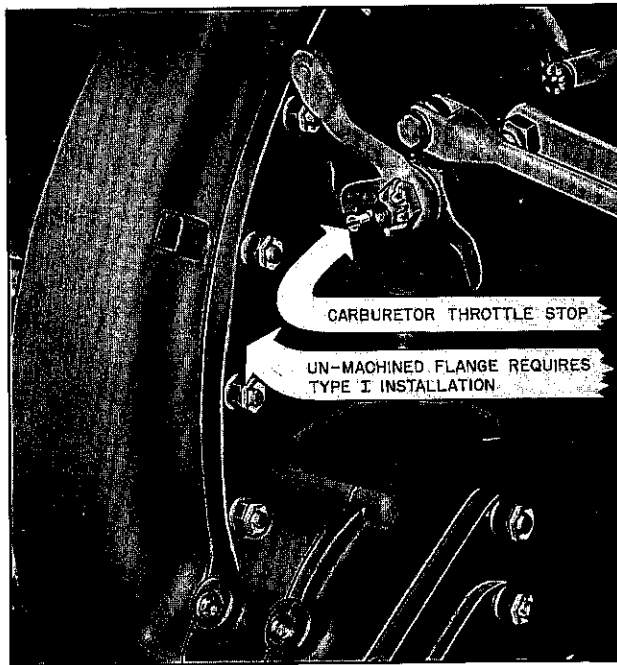
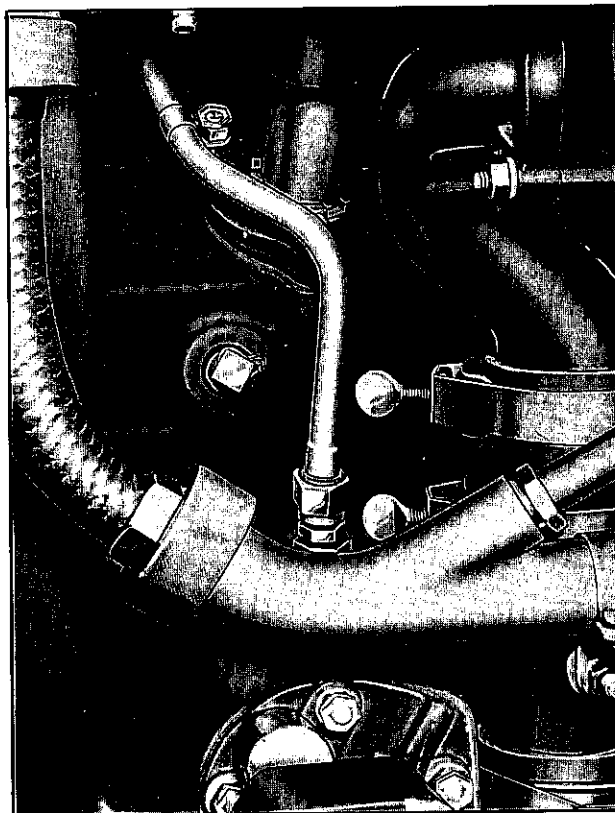

Figure 91—Supercharger Inlet Cover Flange which requires Type I Installation of Regulator.
Figure 92—Source of Engine Oil Pressure Supply for Type I and Type II Installations on Right Side of Engine.
(2) Type I Installation: In the Type I installation the regulator is mounted to the flange of the supercharger inlet cover by using spacer washers and shims to clear the spot faces of the inlet cover flange. (See Figure 91.) The supercharger pressure is conducted to the regulator from the top of the center gas intake pipe by a long air line tube assembly. Engine oil pressure is conducted to regulator from a nipple located in the top of the Cuno oil strainer chamber on the right side of the accessories drive housing by a long oil pressure tube assembly which passes over the top of the accessories drive housing. (See Figure 92.) To summarize, the Type I regulator installation includes the following three special features: